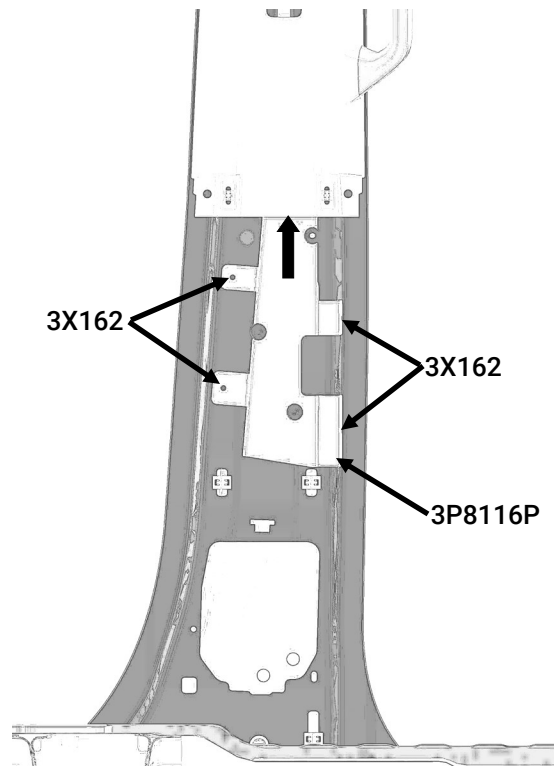

Fig. 1
- Locate the B-pillar bracket [3P8116P]. Rearward flanges will wrap around B-pillar and top of bracket will be up against the upper trim (Figure1).
- Drive in (4) self-tapping screws [3X162]. If required, use a 3/16" drill bit for pilot hole.